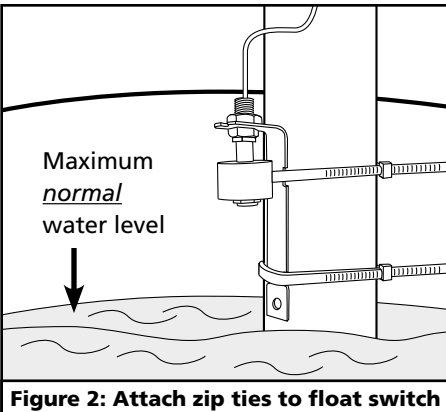

Figure 2: Attach zip ties to float switch
9. Use two Zip ties to secure the float switch to the pumps discharge pipe (Fig. 2).